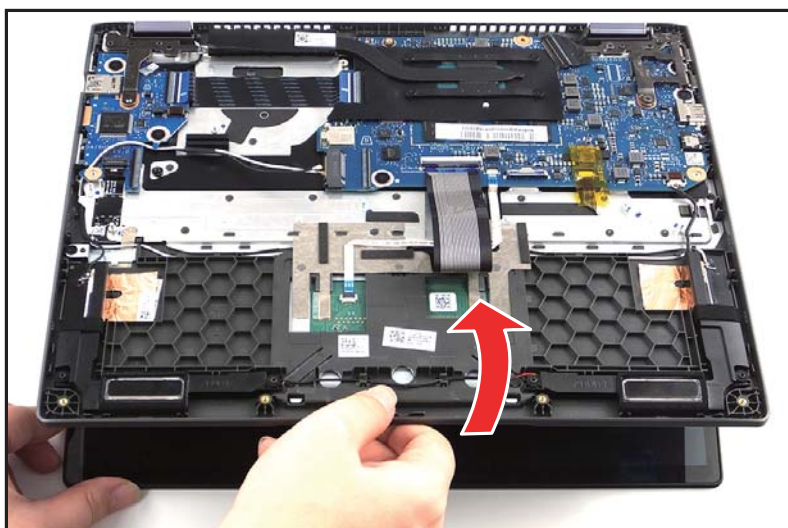

Figure 1-24. USB Board Removal
2. Lift the top assembly until it is fully open (Figure 1-24).